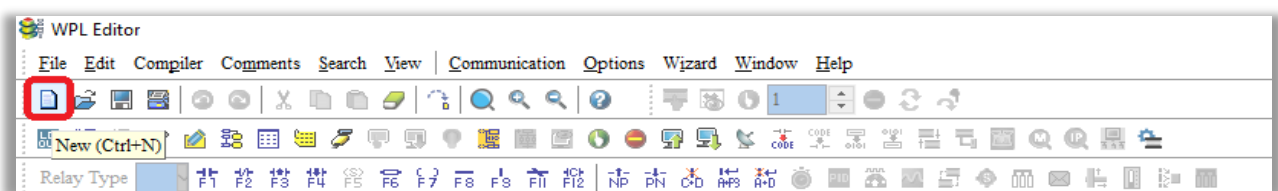

Figure 15-4
Step 3. Click on the  button on the toolbar: **New (Ctrl+N)** to open a new file, as Figure 15-4 shows.